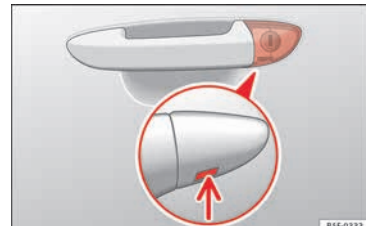

Fig. 3 Driver door lever: hidden lock cylinder.
- Insert the key shaft into the lower opening in the cover on the driver door handle » **Fig. 3** (arrow) then remove the cover upwards.